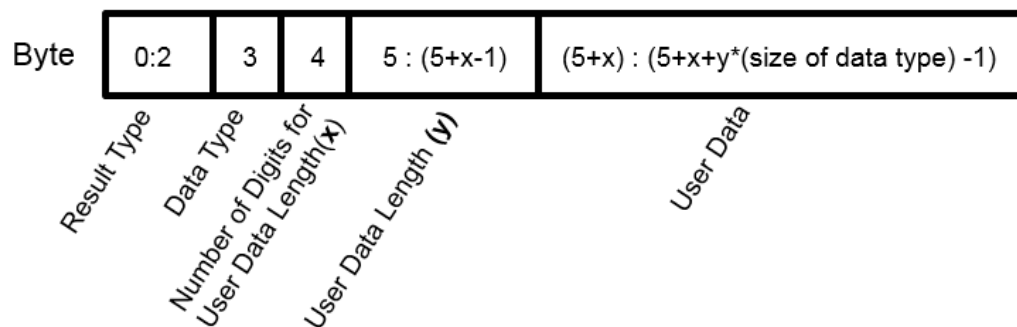

Figure 12-2: User data content format
- Content ('user data content'), see also Figure 12-2. As many bytes as 'LLLLL' specified.